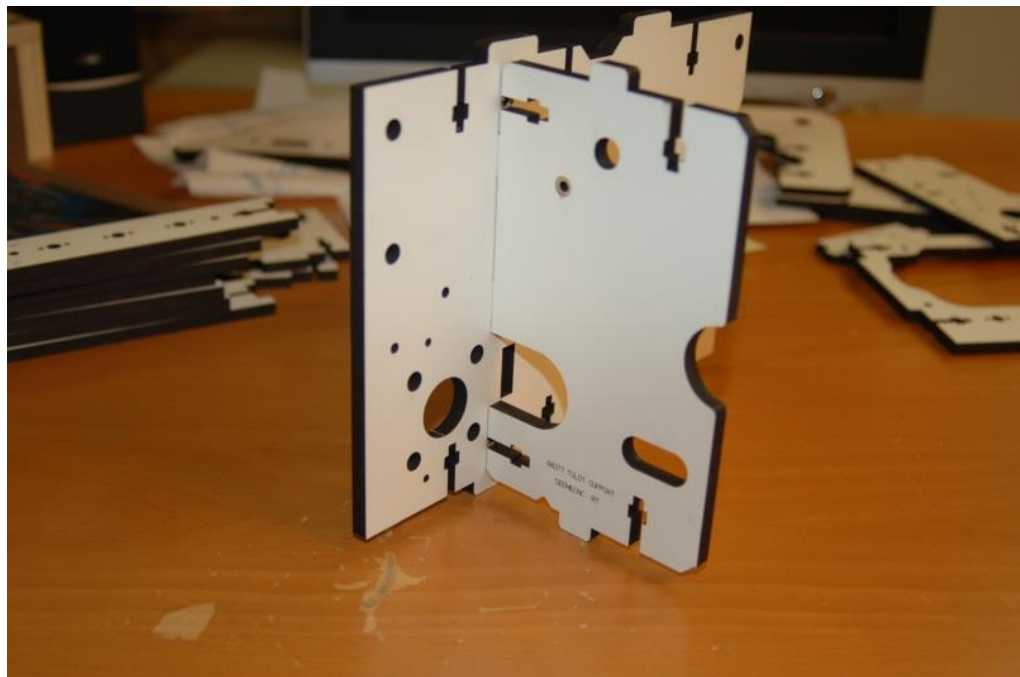
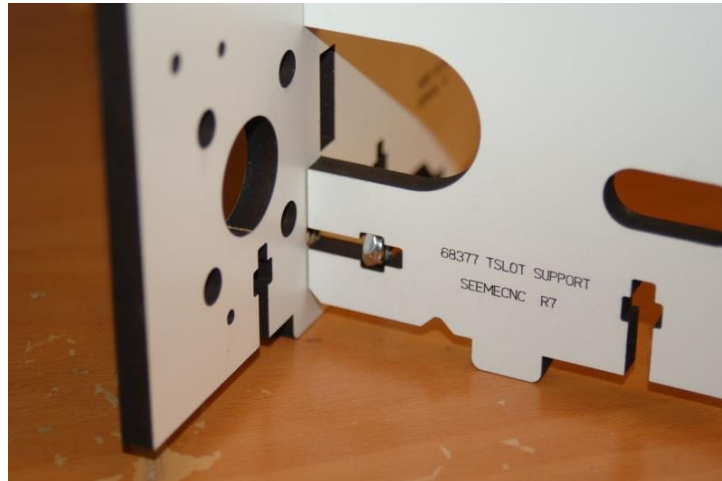
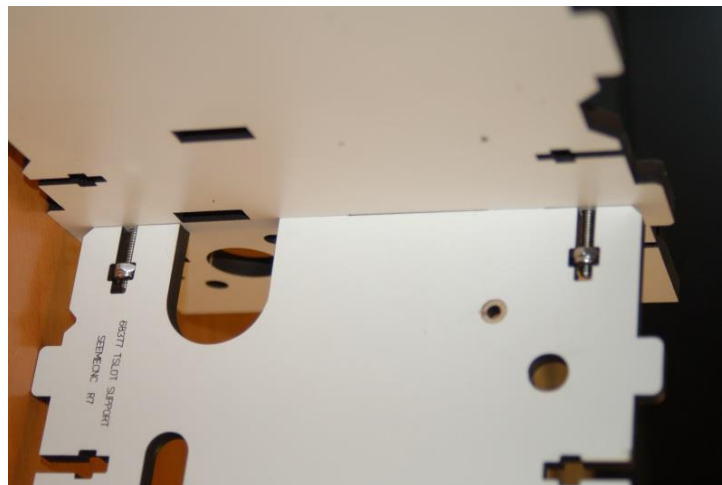

Figure 7 - Dry fitting the T-Slot and Tri-Support together.
Figure 8 - Lock nut installed in the T-Slot Support.
Figure 9 - Tri Support assembled.
**Note that that Fig. 7 above and Fig. 8 below show the T-Slot panel mated to the wrong side of the Tri-Support. Figures 9 and on are correct!**
1.8 - Dry fit the parts as shown in Fig 7 in order to get an idea how they go together. You'll do this for many steps in the assembly guide. Next, pop out the counter-sink rings on the Tri-Support and install a pair of #6-32 Nylon lock nuts into the notches in the T-Slot Support as shown below.